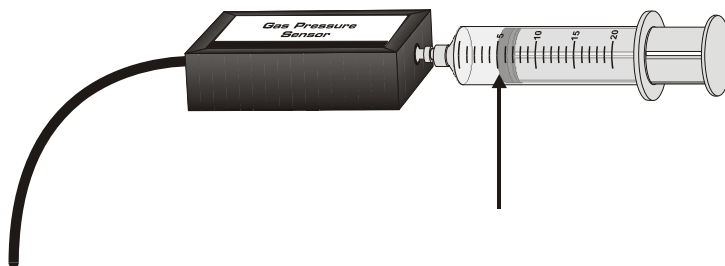

Figure 2
- b. Move the piston so the front edge of the inside black ring (see Figure 2) is positioned at the 5.0 mL line on the syringe. Hold the piston firmly in this position until the pressure value displayed on the calculator screen stabilizes.